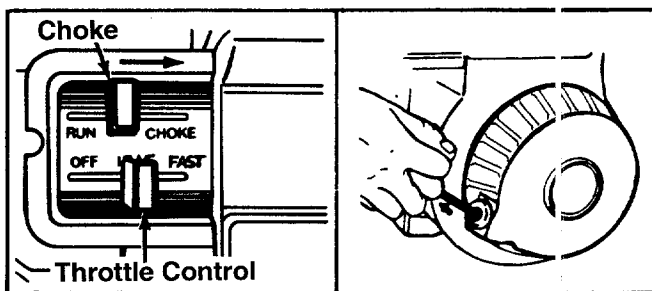

FIGURE 8.—Model 645 Shown
1. Place the throttle control lever in FAST position. See figure 8.
3. Grasp starter handle (see figure 8) and pull rope out slowly until engine reaches start of compression cycle (rope will pull slightly harder at this point). Let the rope rewind slowly.
1. Move throttle control lever to STOP position. See figure 8.